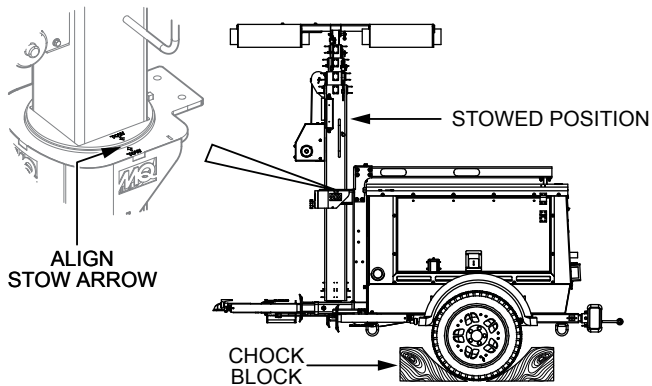

Figure 3. LT6KV Stowed Position
2. Position the light tower in an area conducive for general service. Make sure it is on level ground, and that the wheels are chocked (Figure 3) to prevent the light tower from rolling.
3. Make sure the tower is in the stowed position (mast fully lowered). See Figure 3.